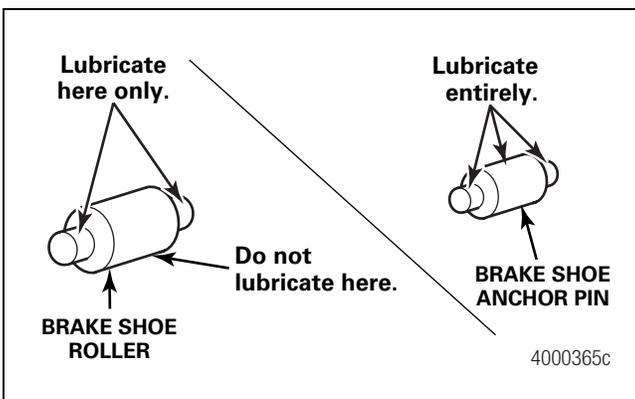
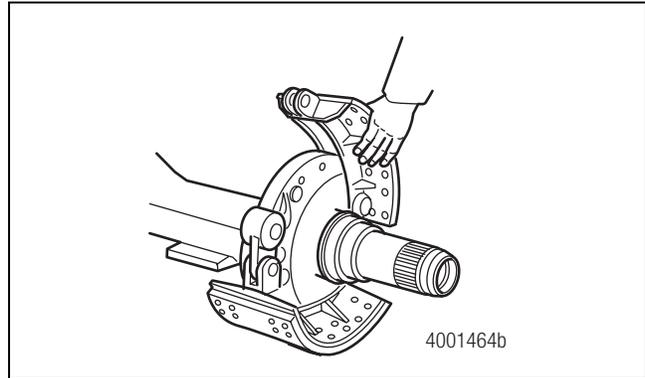

Figure 4.14
Figure 4.15
When the brake is disassembled, or when necessary, lubricate the anchor pins and rollers. Figure 4.14 and Figure 4.15.
Use Meritor specification O-617-A or O-617-B grease to lubricate the brake shoe rollers and Meritor specification O-637 anti-seize compound to lubricate the anchor pin. Figure 4.14.
2. Install the new brake shoe rollers. Place the brake shoes into position on the spider. Figure 4.15.